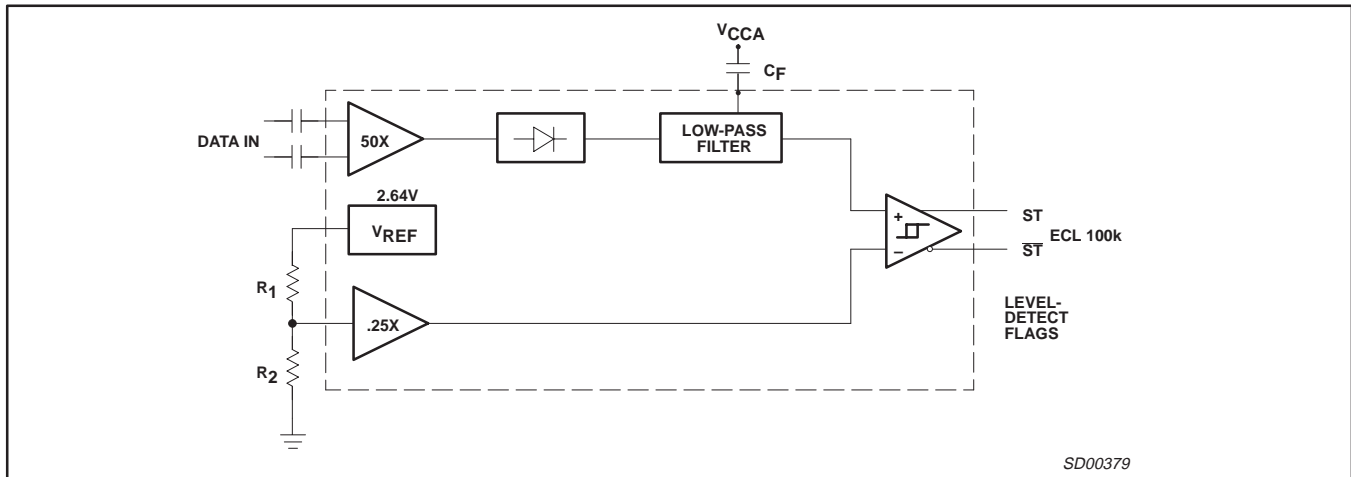

Figure 6. SA5224 Input Signal Level-Detect System
Figure 6 shows a simplified block diagram of the SA5224 level-detect system. The input signal is amplified and rectified before being compared to a programmable reference. A filter is included to prevent noise spikes from triggering the level-detector. This filter has a nominal 1 μ s time constant, and additional filtering can be achieved by using an external capacitor (CF) from Pin 7 to V_{CCA} (the internal driving impedance is nominally 24k). The resultant signal is then compared to a programmable level, V_{SET}, which is set by an internal voltage reference (2.64V) and an external resistor divider (R1 and R2). The value of R1 + R2 should be maintained at approximately 5k.